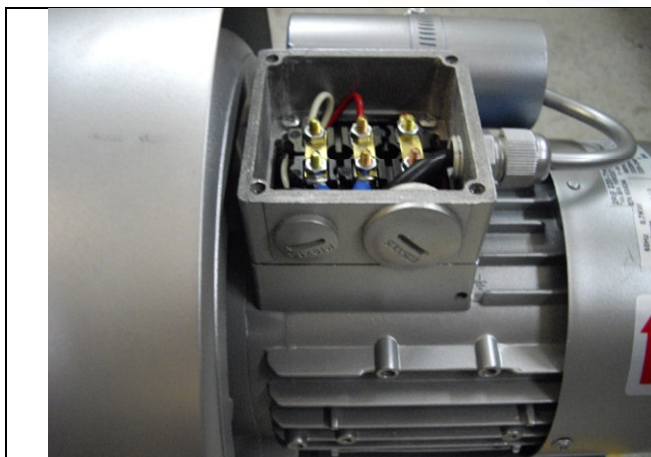
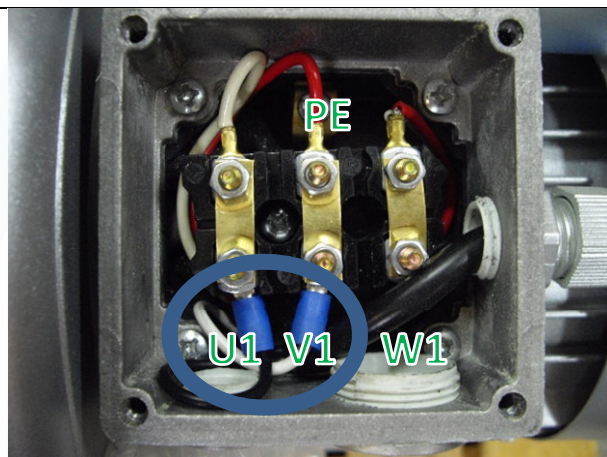

Fig. 1
Fig. 2
- Open the terminal board. The motor windings and the capacitor are already connected (see Fig. 1 and Fig. 2).